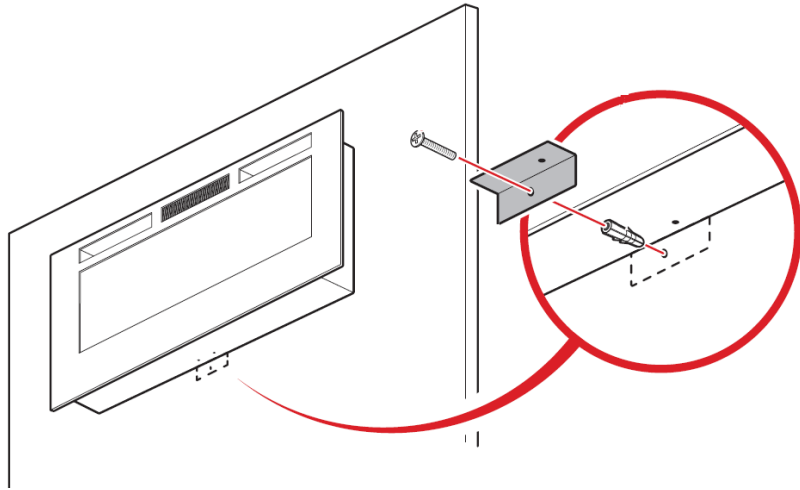

Fig.7
- Inset a wall anchor and attach bottom bracket with 4\*30mm screws.Fig.7